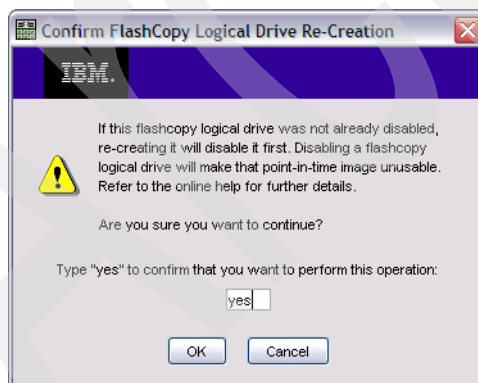

Figure 11-40 Modify - Confirm FlashCopy Logical Drive Re-Creation
3. Review the warning (Figure 11-40), confirm it by typing **yes**, and click **OK**.